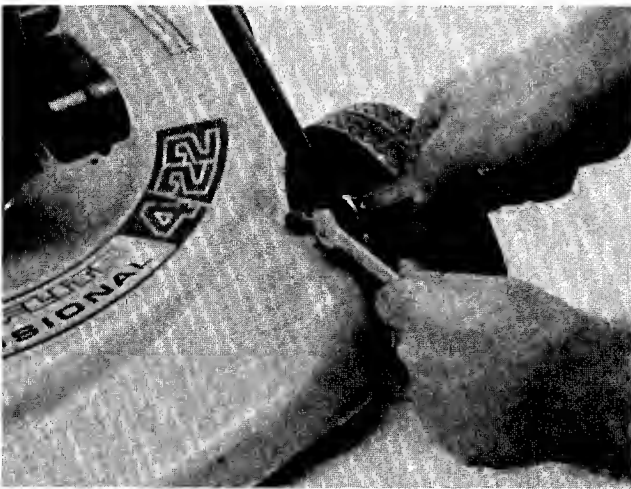

FIGURE 9.
8. Secure the lower struts to strut mounting brackets with two $\frac{1}{2}$ " wrenches. See figure 9.